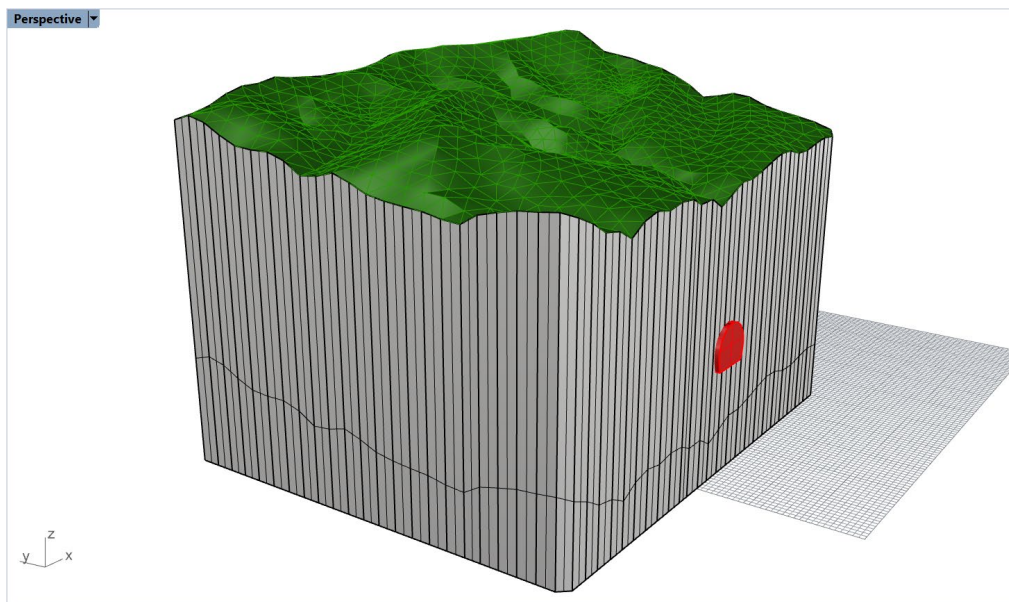

Figure 58: The front part of the tunnel extends through the modeling domain.
25. Turn on the “Tunnel” layer and note that the front and back sections of the tunnel stick out from the domain (Figure 58). Split them by the domain and delete excessive parts.